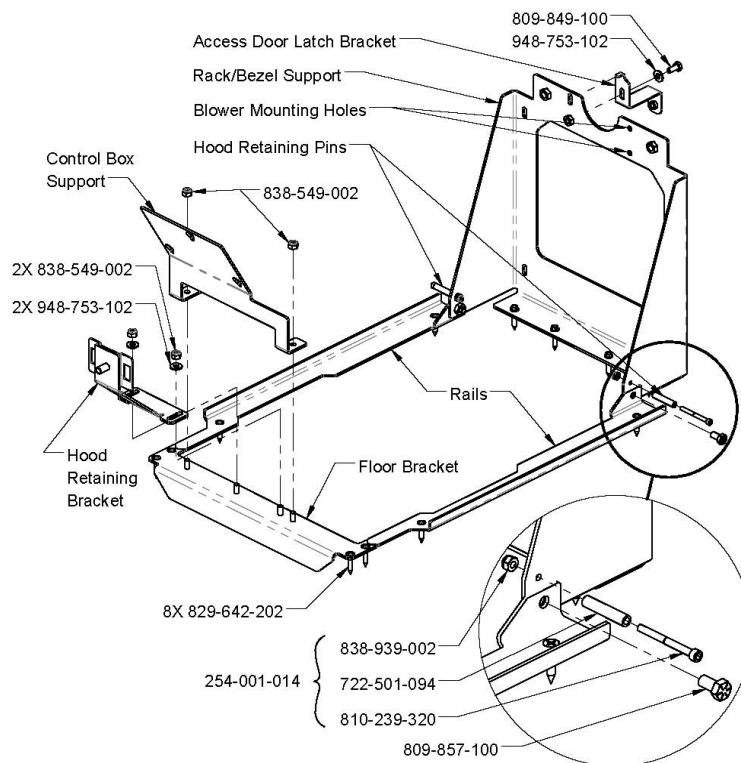

Figure 8 - Hood Base
4. Install the hood locking pins (254-001-014) to the holes in the side of the rack-bezel support as shown in Figure 8.
5. Install the rack-bezel support (in the orientation shown in Figures 8 and 10) on the rack side of the ball lift using four self-tapping screws (821-142-202) into the pre-drilled holes.
6. Install the rails and the front floor bracket to the floor using eight (8) flat-head Phillips screws (829-642-202) as shown in Figure 8.
7. Fasten the floor rail tab to the rack-bezel support as shown in Figure 8.